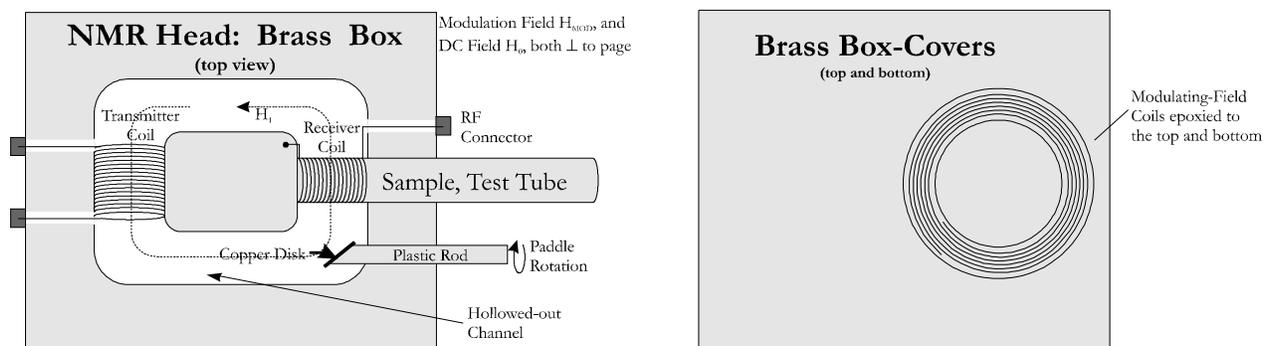

Figure 7: NMR Head Detail.
B. NMR Head: see Figure 7. The NMR head is a brass box containing a radio frequency transmitter coil positioned perpendicularly to a receiver coil into which test tubes are inserted. The test tubes contain samples of protons in H_2O and other liquids. The head is placed between the poles of the permanent magnet. Do not unnecessarily remove this head from the magnet, nor disconnect its cables. Instead, you may examine the spare head on the laboratory table.